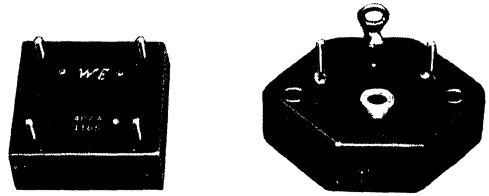

Fig. 6—487A and MDA 952-2 Diodes
5.02 To provide a margin of safety, install 24G fuses (1-1/3 amp) in place of the 24C fuse (2-amp) in the 24V TALK and 24V SIGNAL dc outputs of the units using the 487A diode. The following will help in identifying the 20B1 (MD) and 20C1 (MD) power units involved:
- The 487A diode is square and approximately 1 inch on a side. It is fastened with one central mounting screw. See Fig. 6.
- The MDA 952-2 is hexagonal and is slightly larger. It is fastened with two screws. See Fig. 6.